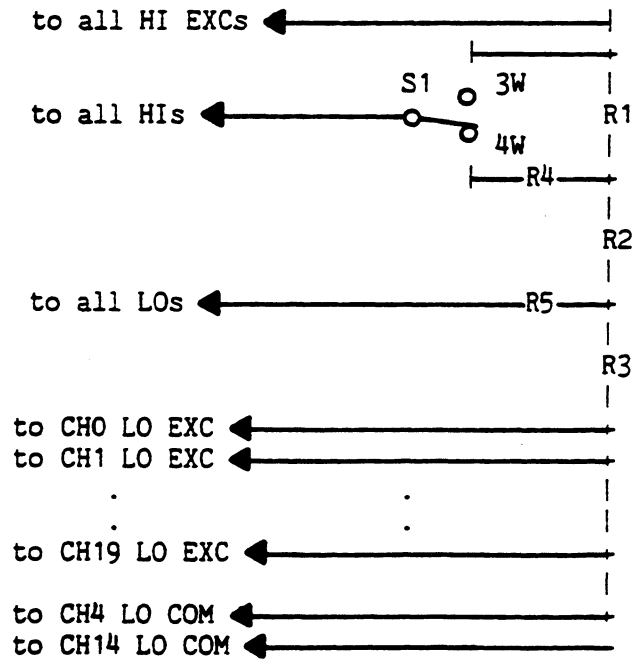

Figure 163-12. Test Input Connector Schematic
1. Wire the input connector as shown in Figure 163-12, with all connections to R1, R2, and R3 made to the resistor leads. (See Table 163-1 for resistor specifications.)